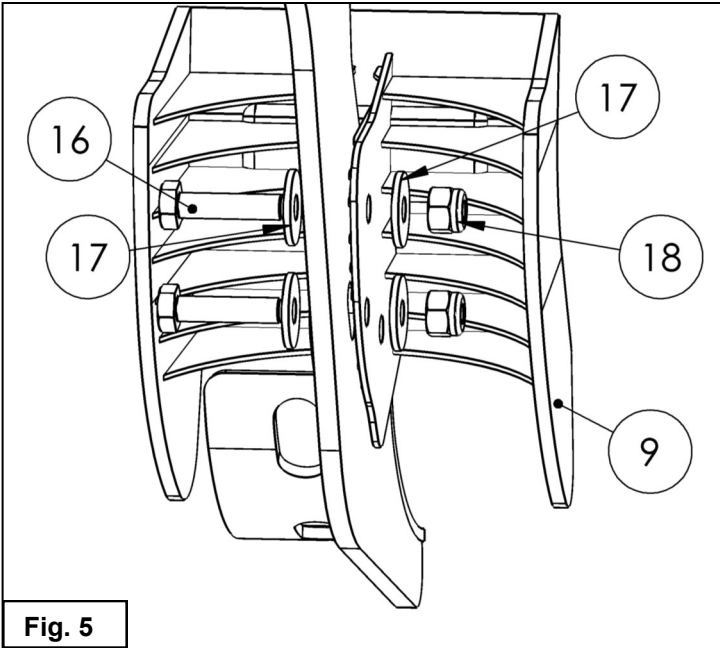

Fig. 5
5. Use the supplied M6 Hardware to attach the Bracket Covers (9) to the Mounting Brackets (3-8). See **Figure 5**.